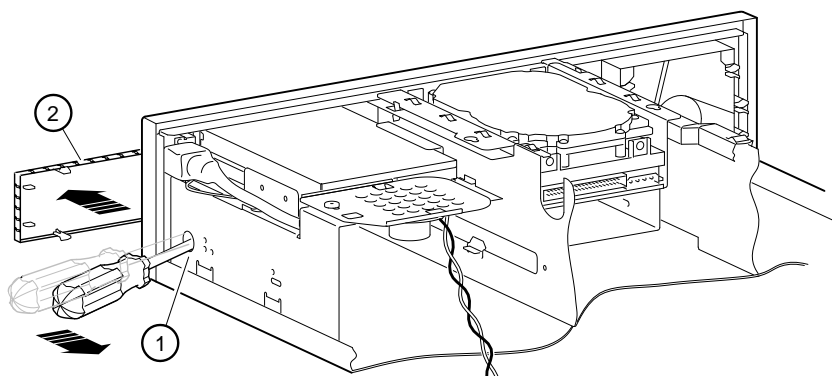

Figure 3-16. Removing Blank Panel
1. Insert a screwdriver ① through the access port and gently pry the blank panel ② out, as Figure 3-16 shows.